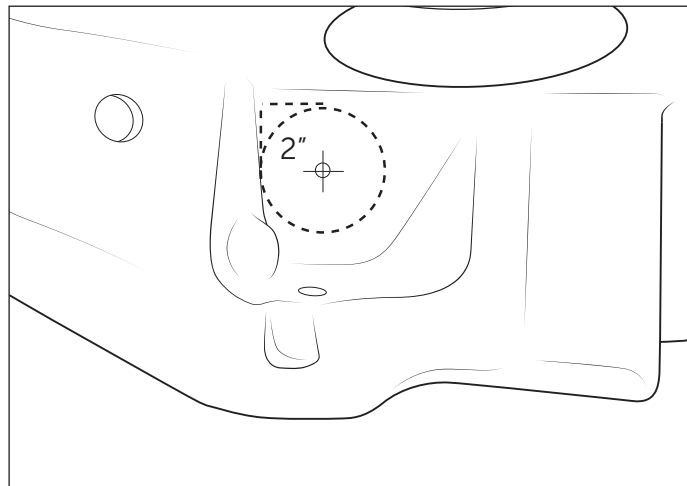

Figure 7
2. In rear of corner tank, locate the molded-in dimple and use it as the center/pilot and drill out using 2" hole saw, being extra cautious not to drill through outside of tank or damage sensor hole (fig. 7).
3. Use utility knife to carefully trim top of hole into square corners (fig. 7). This is for sensor clearance and doesn't need to be exact. If necessary, check sensor fitment to make sure cutout is large enough. Connector should point toward center of vehicle.